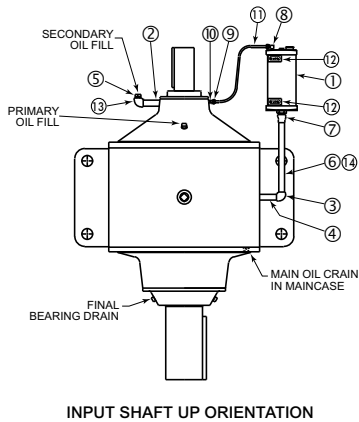

Figure 7.1a Vertical Service Shaft Orientations
Assemble components as shown in Figure 7.1a and Table 7.1b. It is difficult to determine all potential field installation interference points. If necessary please substitute different pipe fittings as required. In doing so, it is important that the bottom of the reservoir is at or above the uppermost bearing. Holes have been drilled by the factory to facilitate both right hand or left hand oil reservoir mounting. Apply pipe sealant to all threaded connections during assembly.
1. Begin by filling the reducer thru the primary oil fill in the maincase until full. Reference Figure 7.1a.
1. Begin by draining oil from main oil drain in maincase. Reference Figure 7.1a.